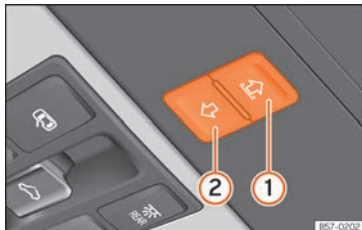

Fig. 91 On the interior roof lining: sunshade blind buttons.
Buttons **»» Fig. 91 1** and **2** have two levels. The first level opens or closes the sun blind fully or partially.
- *Sunshade blind*: within approximately 5 seconds of having activated the anti-trap function, press button »» Fig. 91 Ⓣ until the sun blind closes completely.